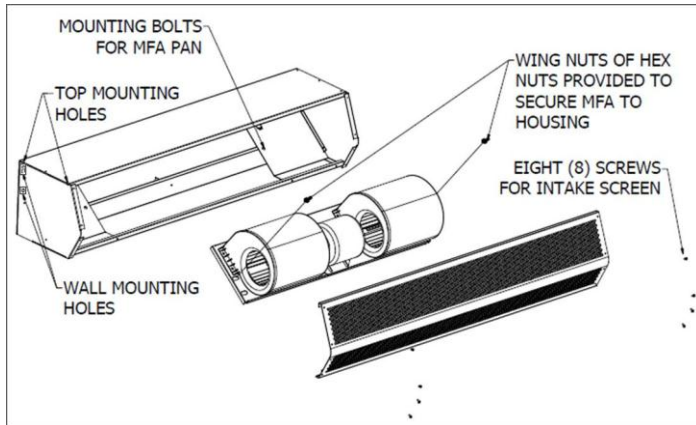

FIG. 2
1. Once the housing is installed over the opening, the Motor Fan Assembly (MFA) must be re-placed and securely fastened. For products with the MFA shipped loose, wing nuts or hex nuts are provided inside the unit (FIG. 2). For heated MFA installation, reference **Heated Products Supplement Sheet**.
3. All 3 phase motors are bi-directional, which means they can rotate in either direction. Follow directional arrows on the blower wheel housings for proper rotation. If the motor is rotating incorrectly, switch two of the 3 phase power or motor leads and the motor will rotate the opposite direction. Make sure all motors are turning in the same and proper direction. (FIG. 2)